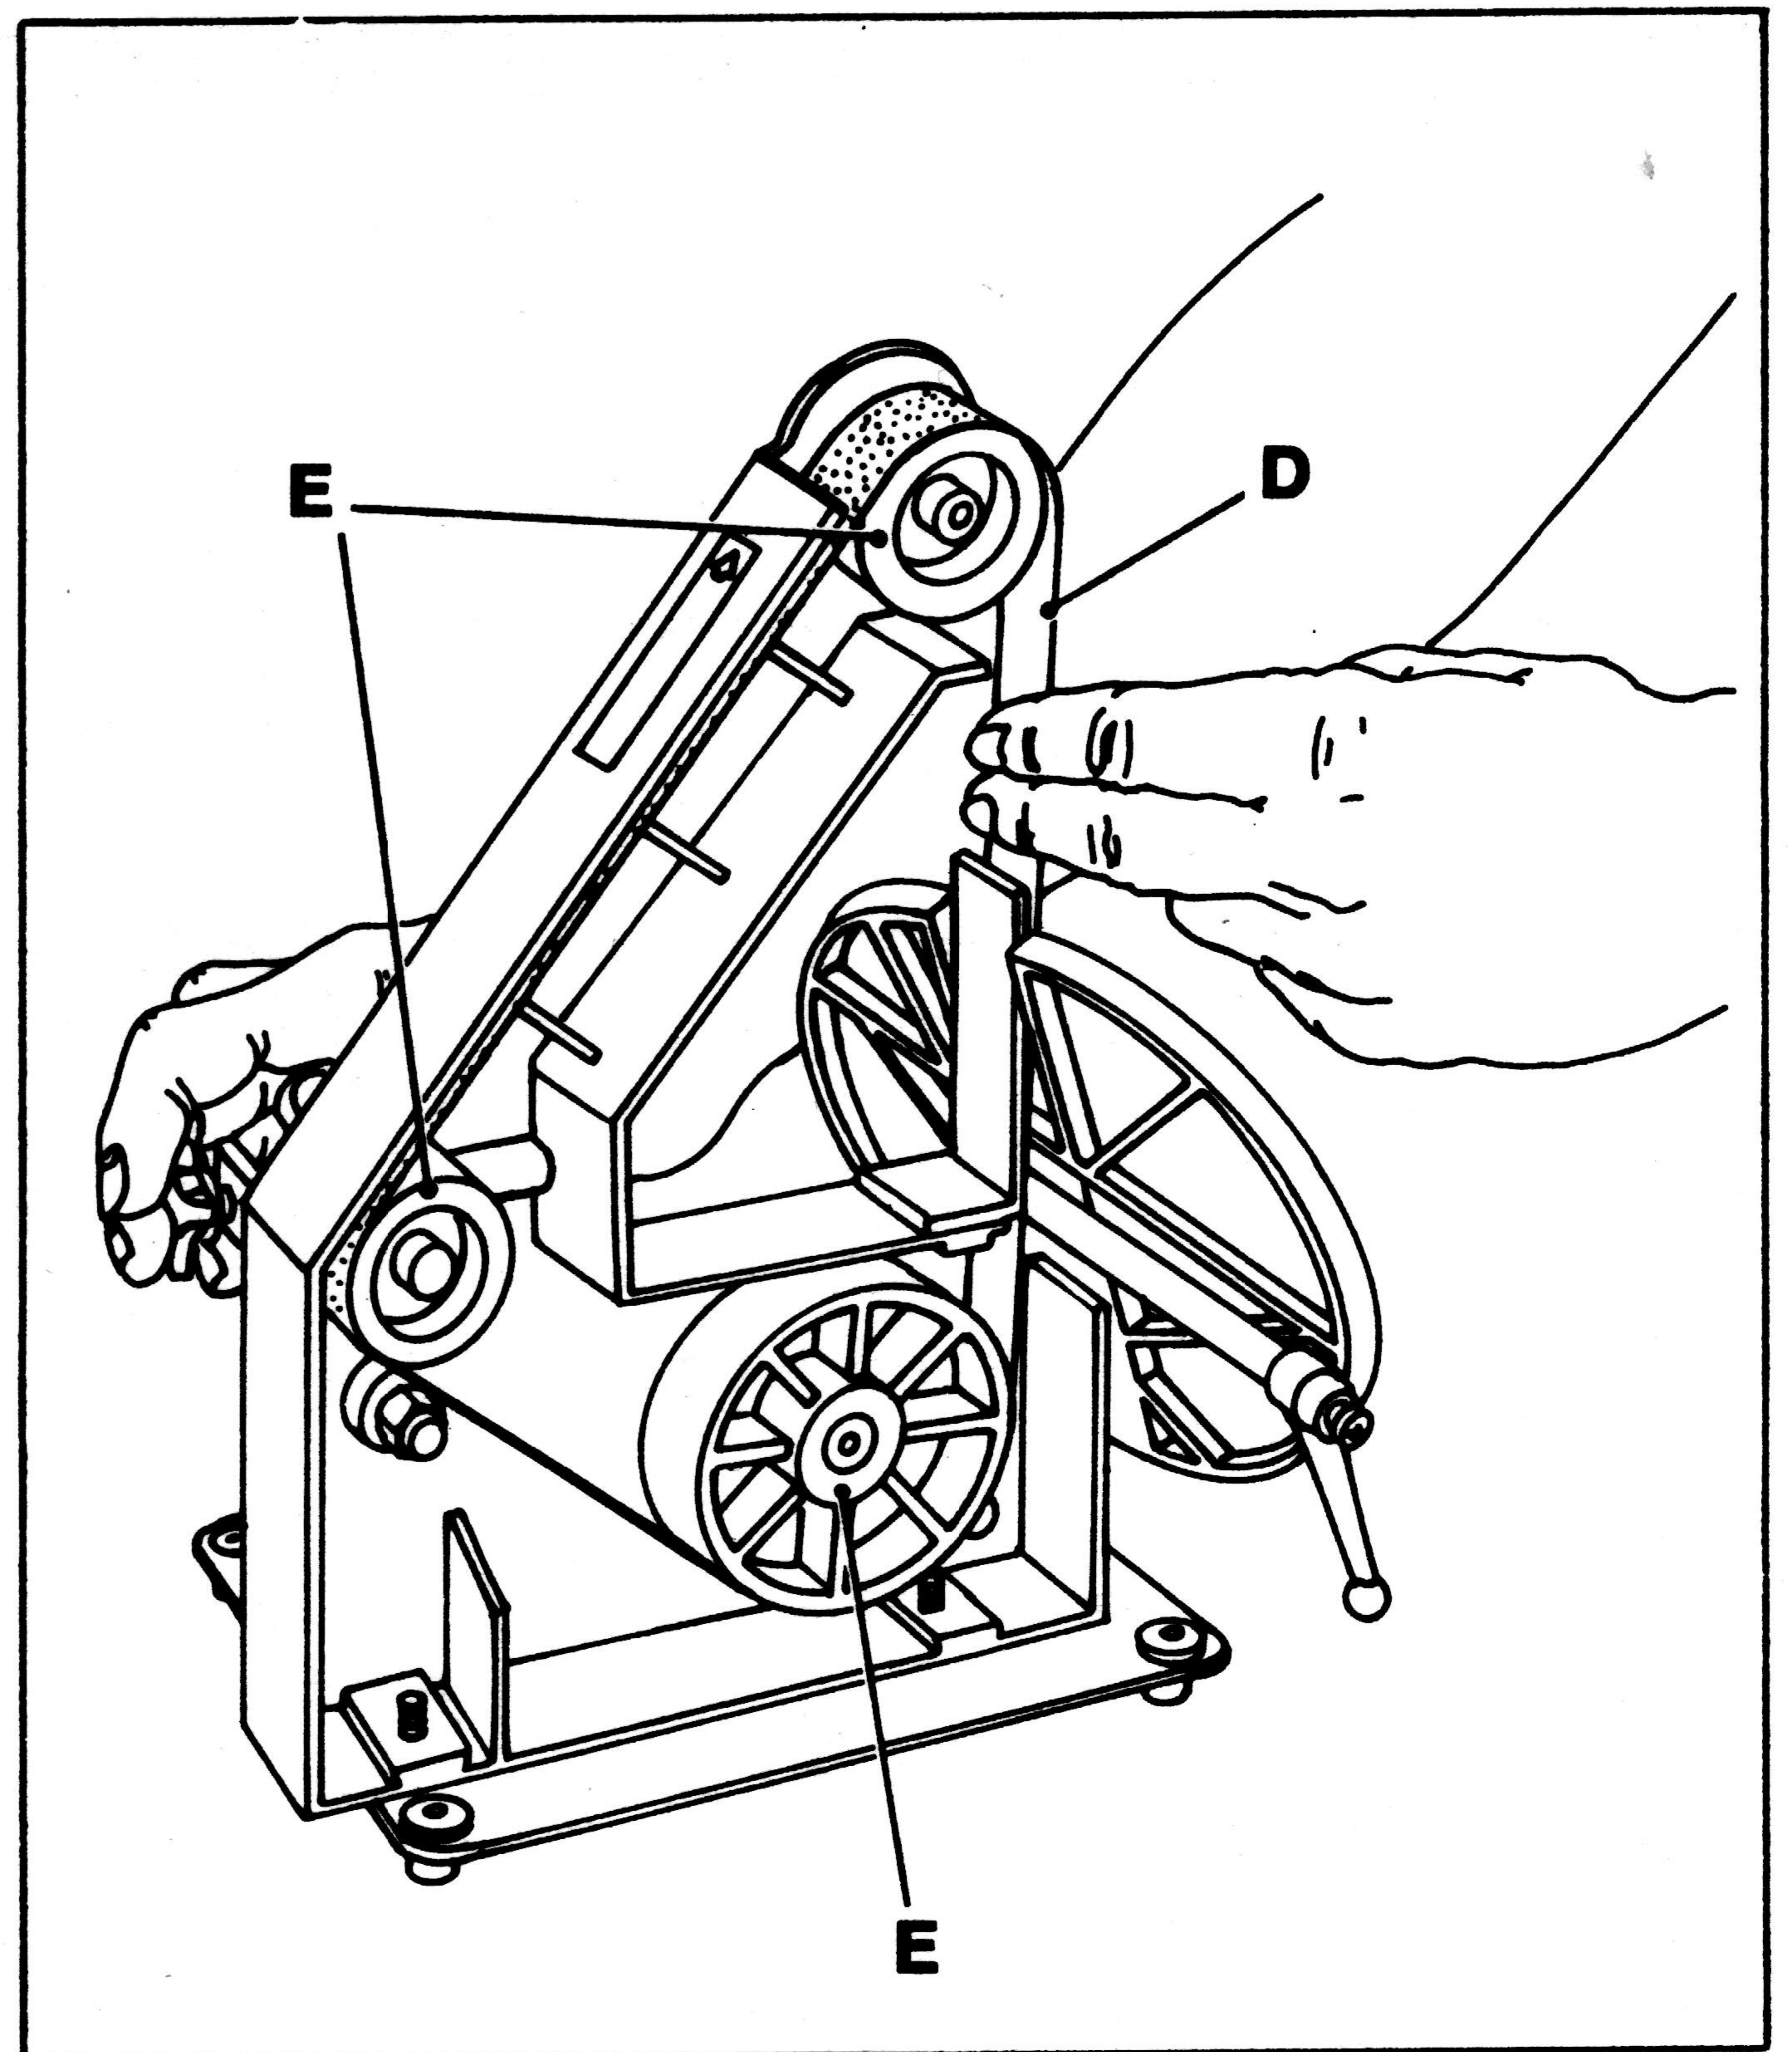

Fig. 18
2. Depress tracking knob (C) Fig. 18, to release belt tension and remove belt (D) from the three wheels (E), as shown.